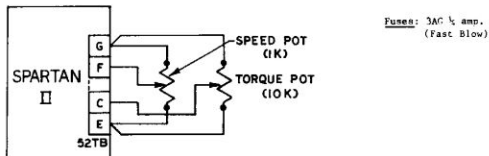

FIG. 12.6.3
- b) Connect a 10K ohm potentiometer between 52TB terminals G, E and B as shown in Fig 12.6.3.